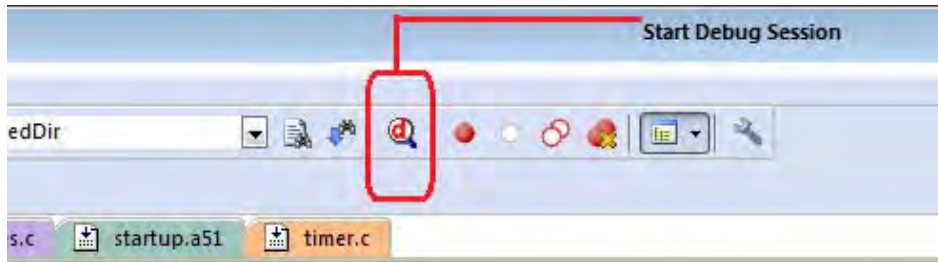

Figure 29. Beginning a Debug Session
- Start your debugging session by clicking the **Start/Stop Debug Session** icon, as indicated in Figure 29. A default Windows configuration of the debug session is shown in Figure 30.